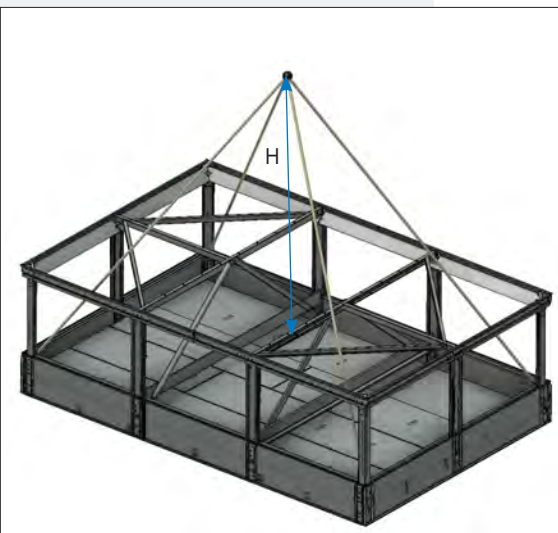

Figure 7a. Lower Section Three-Piece Lift
1. **Figures 7a, 7b, and 7c** show the proper rigging of sections for units that ship in three sections.